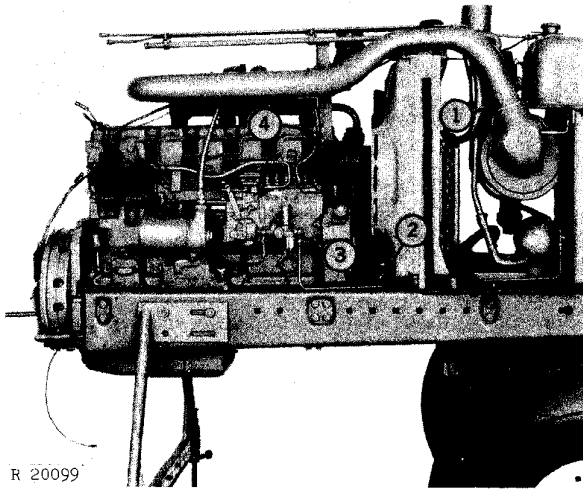

Fig. 11—Right-Hand Side of Engine
1. Remove the air intake pipe (up to turbo-charger) (Fig. 11).